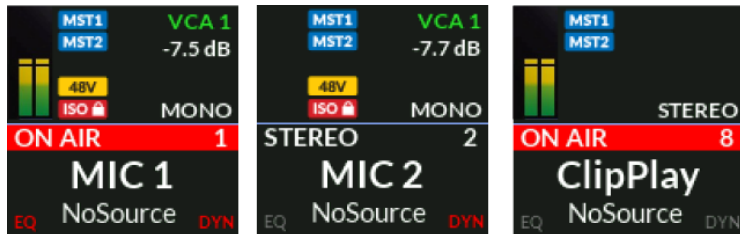

Figure 4-4 Channel Info Displays
The Channel Info display is split, by a horizontal blue line, into two sections (Figure 4-4). Below the line, the current source's signal format (stereo or surround) is shown at the left and that fader's channel number is shown at the right. In Figure 4-4, three channel displays on Layer 1 (which has channels 1-32) are shown. The channel source names: MIC 1, MIC 2, and ClipPlay, are shown using large characters. The other Layer's source names are shown using smaller characters (NoSource is set for all three channels). In Figure 4-4 those are the sources for fader channels 33, 34, and 40 on Layer 2.
**EQ** (Equalization) and **DYN** (Dynamics) icons, in the lower corners of the display, indicate that feature's status on that channel: red means it's active; gray means it's inactive. Both EQ and Dynamics are active on CH 1; Dynamics is active on CH 2 while CH 8 has neither active (Figure 4-4).
The rest of the area above the blue line displays various icons indicating which buses and VCA groups that channel is assigned to. Figure 4-4 shows that all three channels are assigned to both **Master outputs** (the **MST1** and **MST2** icons). Channels 1 and 2 are assigned to a **VCA group** (VCA 1). The channels' levels feeding the VCA group is shown numerically below the icons (-7.5 dB and -7.7 dB). The signal output format is shown just above the blue line (Mono, Stereo, 5.1). Additional icons are shown when a mic input has phantom power turned on (**48V**). Channels can also be put into Isolation which means they do not toggle when the Layers buttons are used to switch Layers. In Figure 4-4, channels 1 and 2 are in Isolation since they both have a red **ISO** icon.
When a channel is turned on; its fader is above full off; and it's assigned to Master 1 or Master 2, and that master fader is on and its fader is above full off, a red ON AIR bar is shown across the display (shown on channel 1 and channel 8 in Figure 4-4). Depending upon the mute and tally settings for that signal this may cause monitor speakers to mute and a tally to be triggered.
A red On-Air bar appears across the middle of the Info display (as shown on two of the channels in Figure 4-4) with the channel number shown at the right end whenever the channel is on and feeding the Master 1 and/or Master 2 outputs, and both the channel fader and at least one of the assigned Master faders are above full off.